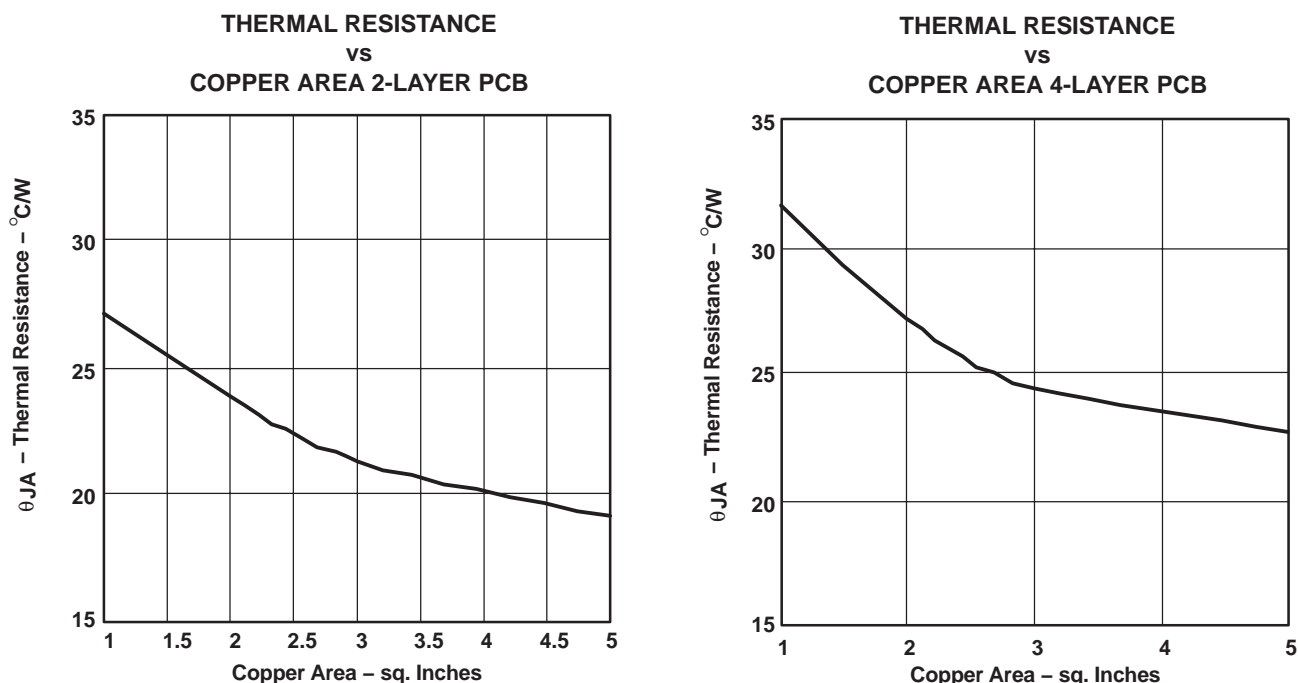
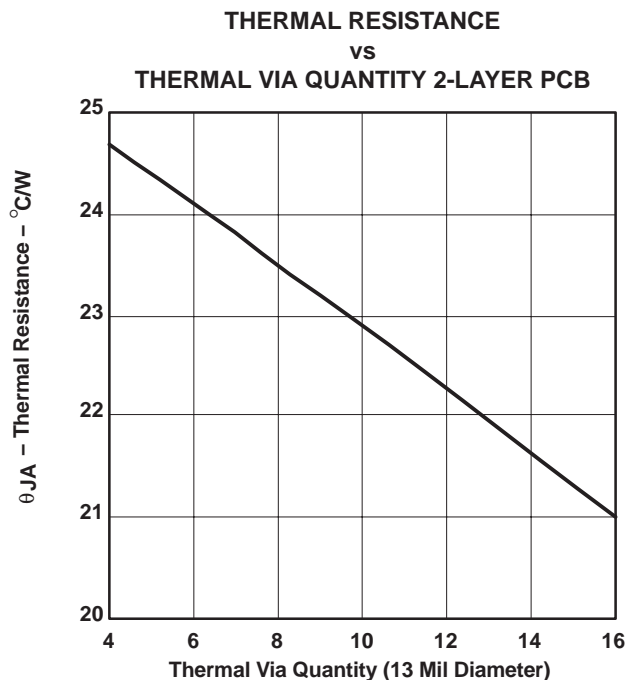

Figure 38. Thermal Resistance
Figure 39. Thermal Resistance
$$\Theta_{JA} = 19^{\circ}\text{C/W} \quad (2\text{-Layer PCB, } 5 \text{ sq. in. copper, see Figure 38)} \quad (8)$$
Figure 38 and Figure 39 show the results of several thermal experiments conducted with the TPA3002D2. Both figures show that the best thermal performance can be achieved with more copper area for heat dissipation and an adequate number of thermal vias.
Figure 38 shows two curves for a 2-layer and 4-layer PCB. The 2-layer PCB layout was tightly controlled with a fixed amount of 2 oz. copper on the bottom layer of the PCB. The amount of copper is shown on the x-axis. Nine thermal vias of 13 mil (0,33 mm) diameter were drilled under the PowerPad and connected to the bottom layer. The top layer only consisted of traces for signal routing.
Figure 39 shows the effect of the number of thermal vias drilled under the PowerPAD on the thermal performance of the PCB. The experiment was conducted with a 2-layer PCB and 3 square inches of copper on the bottom layer. For the best thermal performance, at least 16 vias in a 4x4 pattern should be used under the PowerPAD. Refer to the TPA3002D2 EVM User's Manual (SLOU151), for an example layout with a 4x4 via pattern. PCB gerber files are available at request.